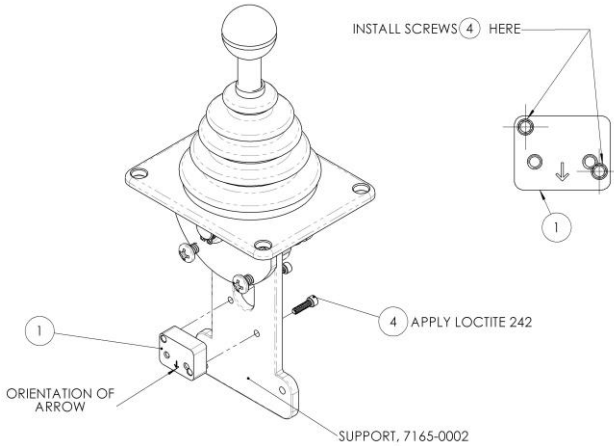

Figure 18: Installation of microswitch bracket, 7165-0011
6. Refer to Figure 18 for the next three steps. Note the engraved arrow on the microswitch bracket ① is pointed downwards on the joystick support.